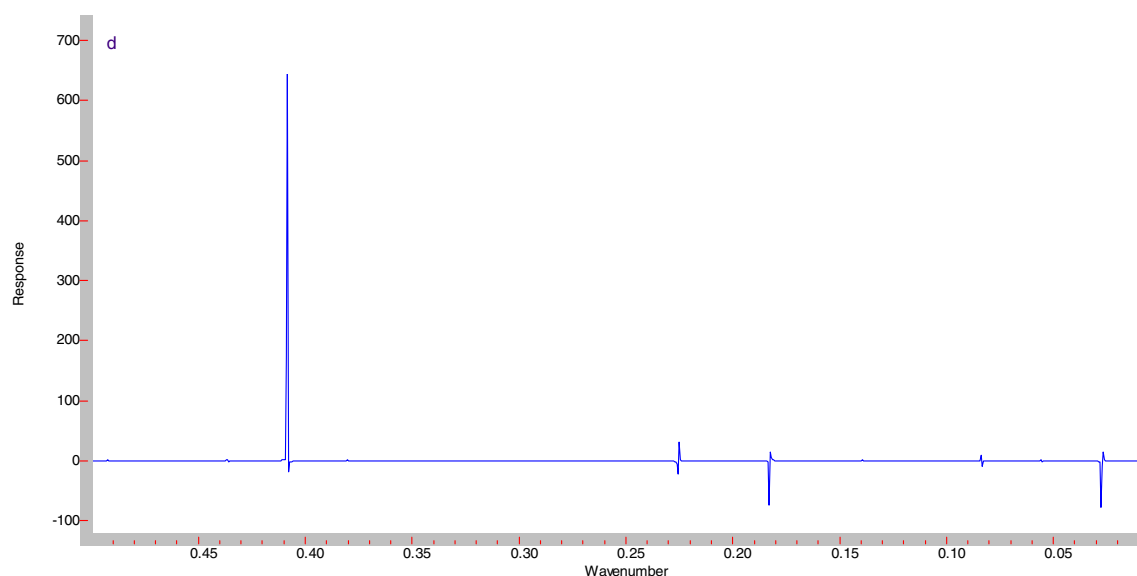

Figure 8. Spectrum 11
14. Now do a Setup from PM-IRRAS DSP(3) window. Click on the **DSP Calibrate** button. When the calibration is complete click **OK**.
18. In the resulting spectrum there should be a strong peak at approx. 0.41 as shown in Figure 8. Multiply the peak location by 28571. Subtract this product from 85714. This result is the actual frequency of the PEM. Enter this value for the 'PEM Frequency in Hz' parameter and then click **Scan** again. This value may be different than the value on the PEM controller display. Note the difference between the calculated value and the displayed value. This difference will be constant.